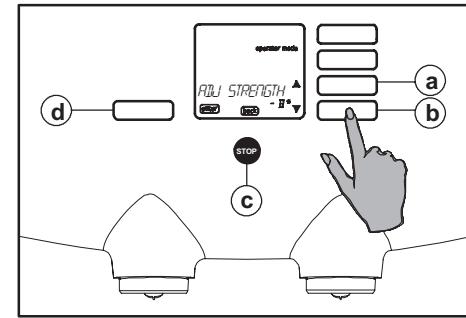

Fig. 73 Set +/- number %
4. Press the enter button (fig. 73 d). The display shows the number of percent that is set (fig. 73).
5. With the scroll buttons \updownarrow (fig. 73 a or b), select the desired strength adjustment.
6. Press the enter button (fig. 73 d) to confirm the setting.
7. Then press the stop button (fig. 73 c) to end the programming.